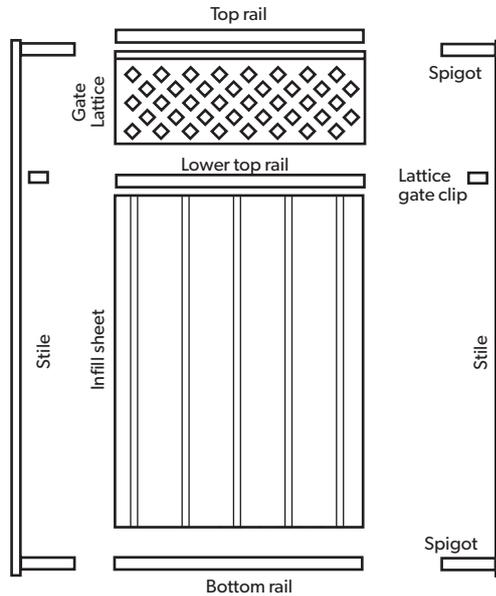

Figure 21.2
4. For 'PLUS Option' (with lattice/slats) gate: Mark the position of the two lattice gate clips. Fasten the clips to the stiles using two hex. head screws (#10-16x16) for each (Figure 21.2).